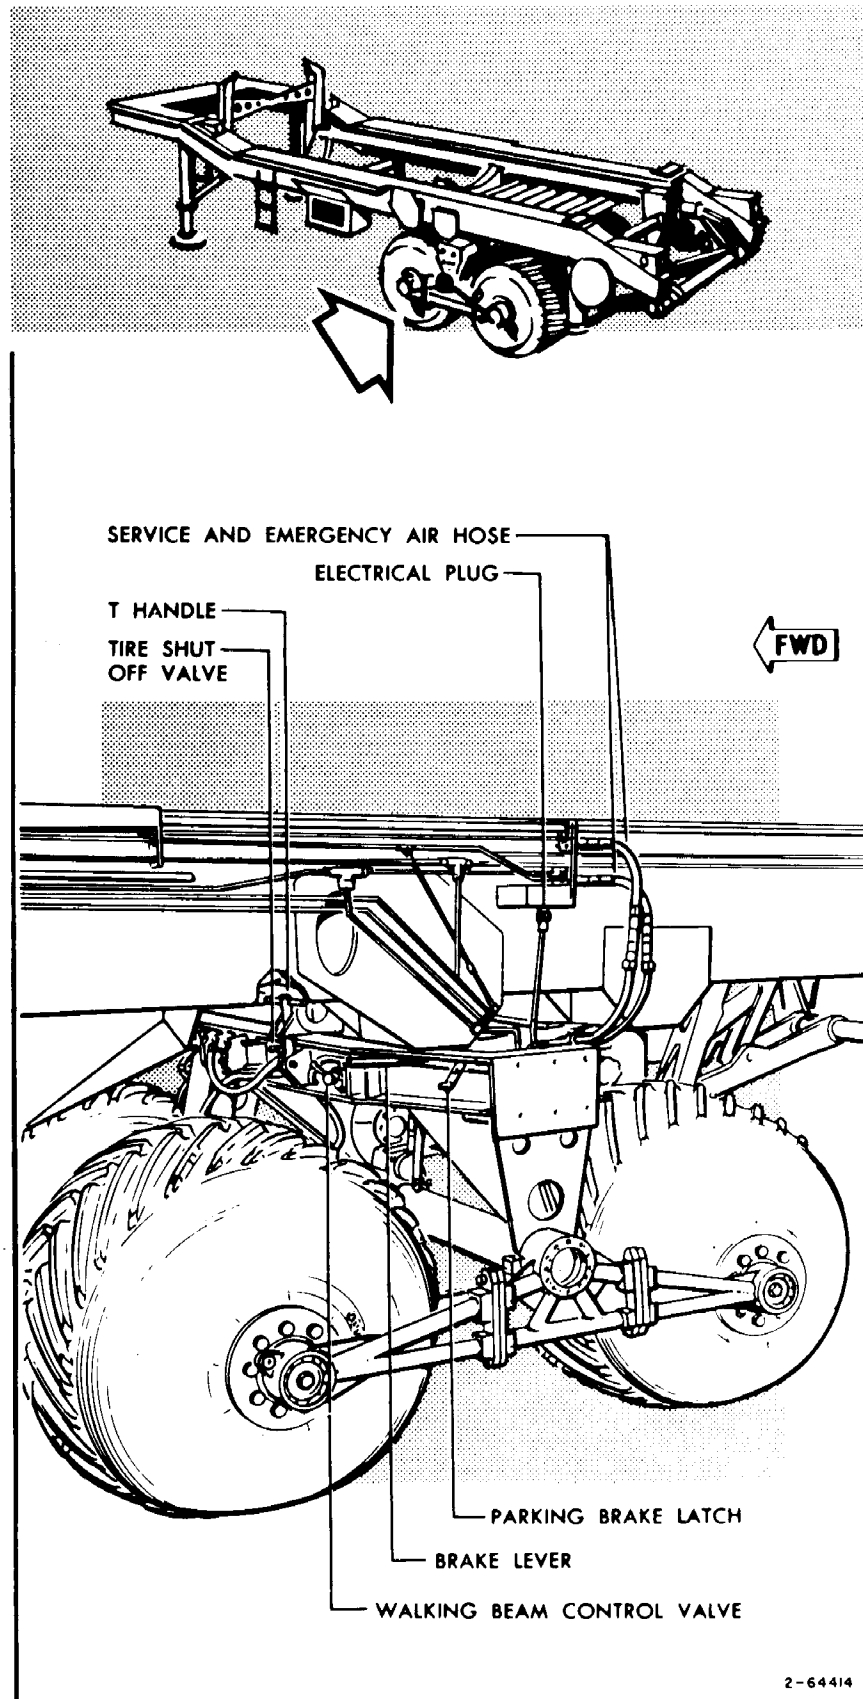

Figure 3-36. Translauncher Bogie Removal
- a. Release brake. (See figure 3-36.)
- a. Disconnect service and emergency air hoses at quick-disconnect fittings located on left side of Translauncher directly above forward bogie, and secure hoses to clips on bogie subframe. (See figure 3-36.)